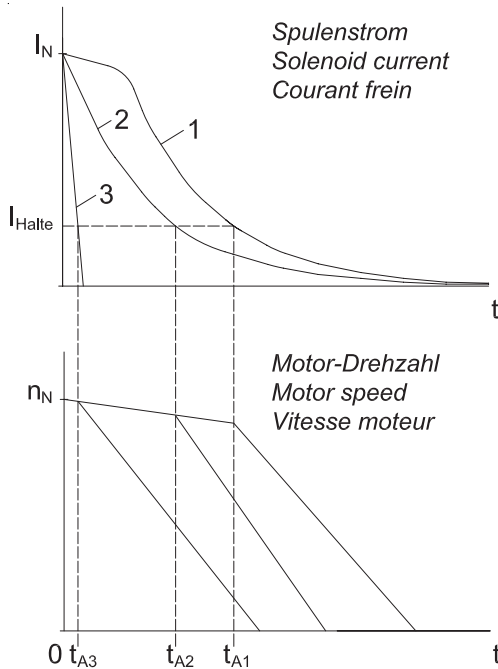

Figure 3: Development of the solenoid current and the motor speed after AC interruption (1, 2) and DC (3) disconnection
a) Rectifier supply from the motor terminal board (Figure 3, graph 1)
- b) Separate rectifier supply (Figure 3, graph 2)
**4.1.2.2 Interruption in the DC switching circuit of the solenoid (Figure 3, graph 3)**